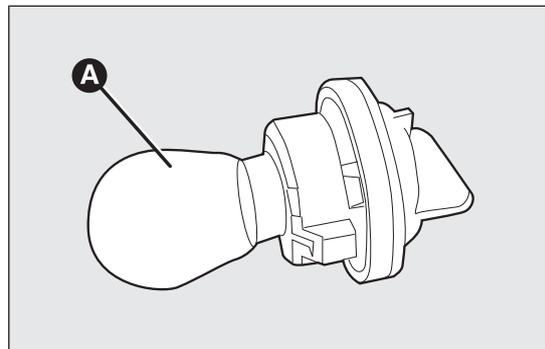

fig. 137
- remove the bulb A fig. 137 and replace it;